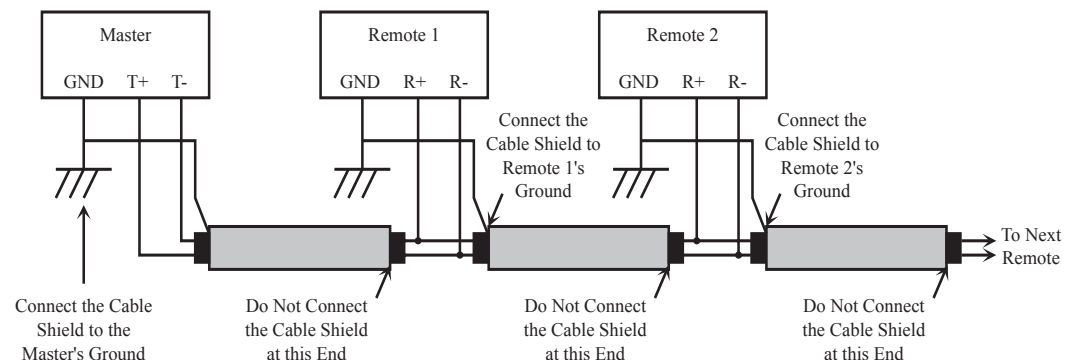

Figure 2-3: Communication Shielding With All Units Earth Grounded
- earth grounding all units (see figure 2-3 on page 13)
For systems with multiple units on a network, there will be a series of cables daisy-chained between the units, and the shield of each leg of the network should be connected to ground at only one end. It does not matter which end. An example of this method of grounding is shown in Figure 2-3.
All units are connected to the same earth ground. Each shield ground is connected to only one unit, then interrupted to prevent the formation of ground loops. Two sets of lines are wired as shown in Figure 2-3. It does not matter significantly which unit's GND is used for a particular shield, as long as the path is broken from unit to unit.